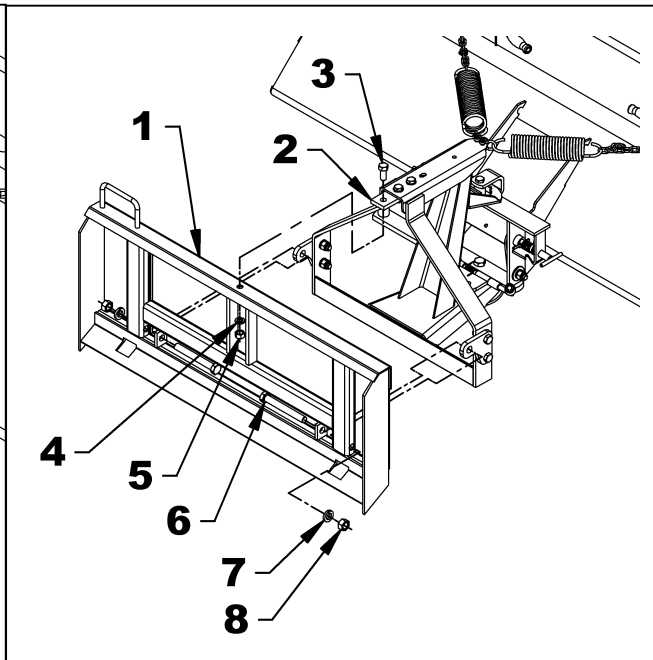

Figure 8C
3. **Figure 8C or 10C:** Attach the lower section of the broom back (item 2) to the hitch (item 1) with two 3/4"NC x 6" lg. hex. bolts (item 6), 3/4" lockwashers (item 7) and 3/4"NC hex. nuts (item 8).
4. **NOTE** The items 1, 6, 7, and 8 are provided with the Universal hitch kit #8153.
5. **Figure 8C or 10C:** Attach the upper section of the broom back (item 2) to the hitch (item 1) with the 5/8"NC x 1 1/2" lg. hex. bolt (item 3), 5/8" lockwasher (item 4) and 5/8"NC hex. nut (item 5).